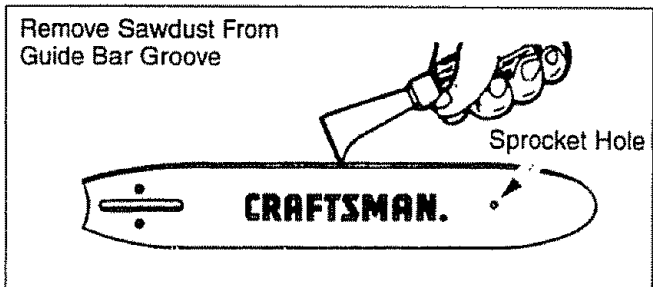

Figure 38
## GUIDE BAR MAINTENANCE (Fig. 38 & 39)
- Clean all saw dust and any other debris from the guide bar groove and guide bar lubrication hole. Figure 38.
- Lubricate guide bar hole sprocket after each use. Figure 38.